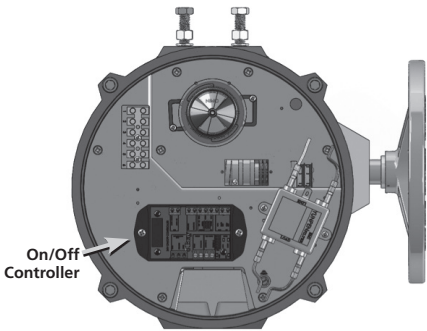

Figure 7. S70 24V On/Off Actuator
- 6.4.1 Every Series 70 24V On/Off Actuator is fitted with a 24V On/Off Controller as shown in Figure 7.